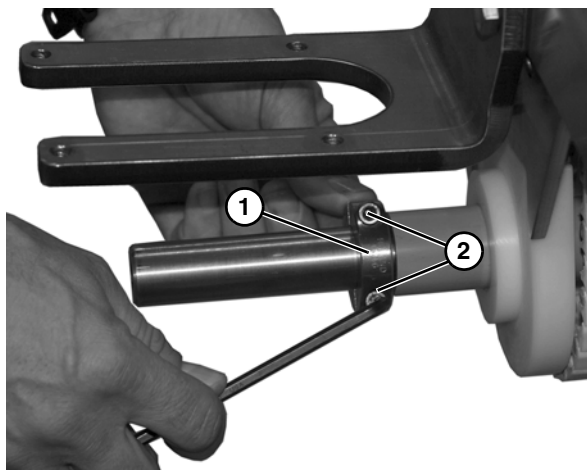

Figure 17
6. Install second half of collar clamp (**Figure 17, item 1**) and secure with two hex socket head screws (**Figure 17, item 2**).